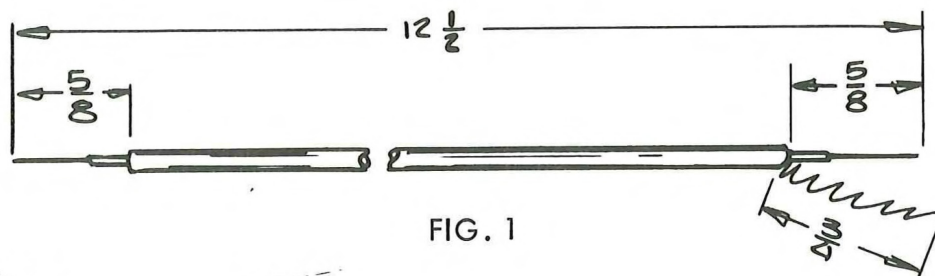

FIG. 1
- Prepare cable as shown in Fig. 1.